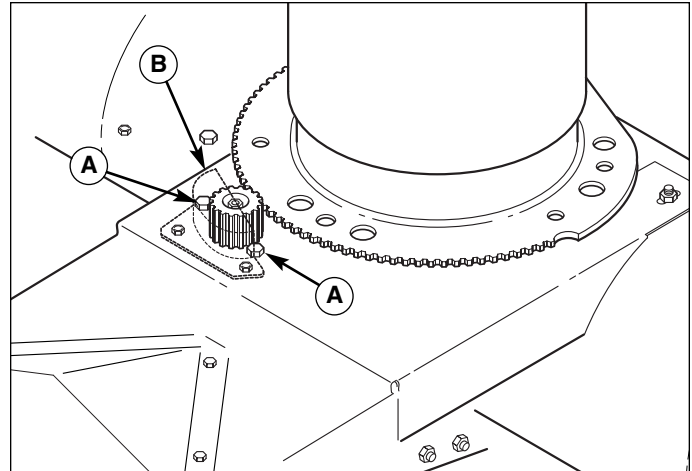

Figure 12. Discharge Chute Motor Adjustment
3. Remove the plastic cover (B, Figure 12) and loosen the three taptite screws (A) securing the electric spout rotator motor.
5. Adjust the motor so that it meshes with the discharge chute ring gear and tighten the adjustment screws (A, Figure 12).